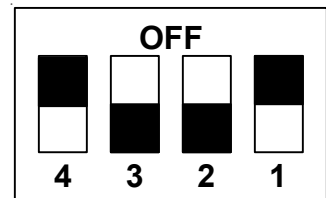

Figure 5
16. Move Dip switch No. 1 to OFF (see Fig. 5).